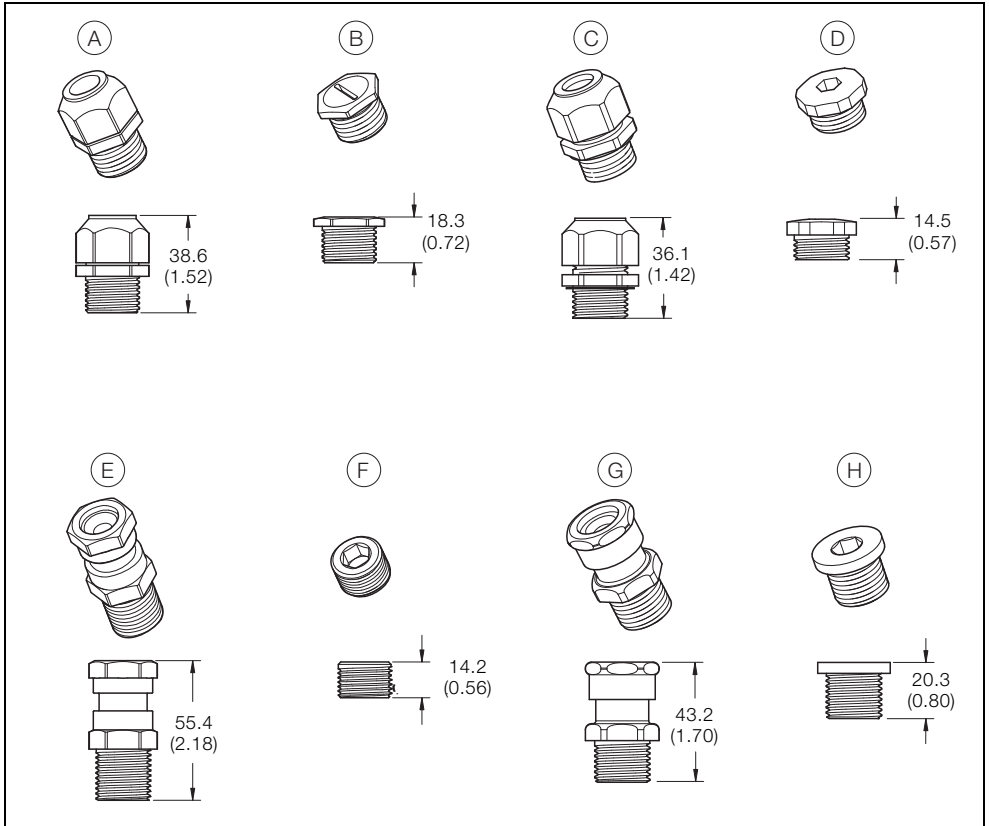

Fig. 4.1 Cable Glands and Plugs
2. Route the sensor wiring through one of the three threaded connections in the transmitter housing and use an appropriated cable gland (refer to Fig. 4.1, page 27 for gland options). Note, a cable gland must be used